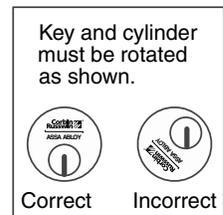

Figure 21
- Cylinder must be oriented correctly. (Figure 21)